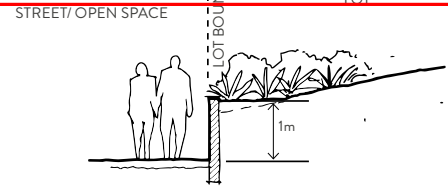

Figure 4 | Retaining Wall: Street/ Open Space Interface
- Retaining walls facing a street, open space, or any area visible from the public realm should not exceed 1.0m in height (refer to Figure 4).